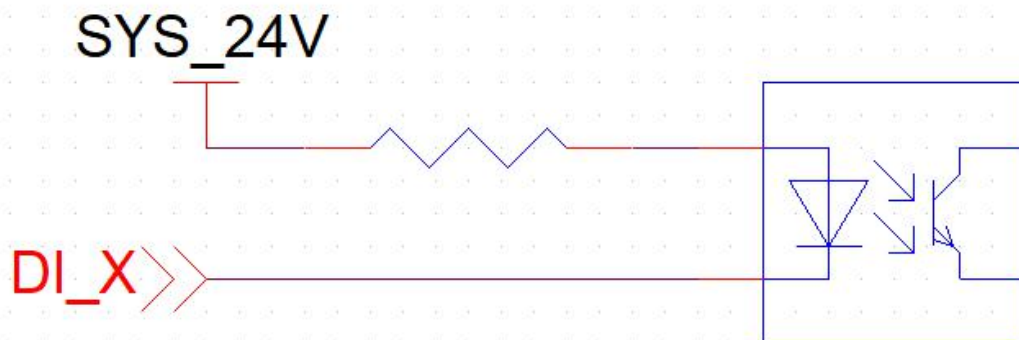

Figure 2-7
- The logic of the interface is shown in Figure 2-7 "